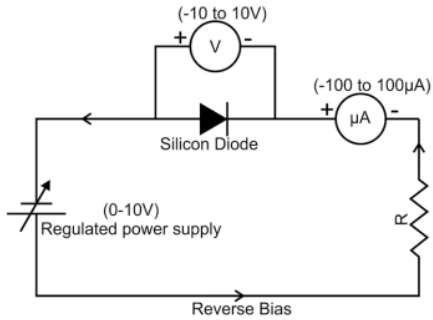

Fig P14.2
8. Connect the p-n Junction diode ( Si/Ge) in reverse bias as shown in Fig. P14.2.